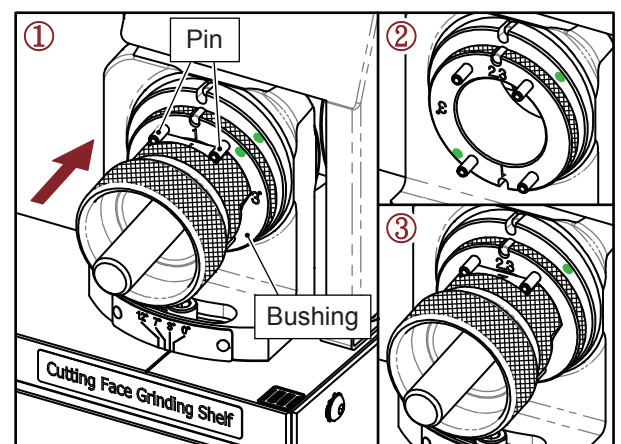

Fig. 10-3
3. 3 Flute Cutting Face Grinding (III) (Fig. 10-3)
- ① Insert the Chuck set into the bushing on Shelf (III), align Slot No.1 with the two pins where marked as No.1, gently push the Chuck set until the grinding noise stops.
- ② Take the Chuck set out and turn the bushing to No.(2·3), align No.(2·3) with the pin on the shelf, then insert it to the end.
- ③ Insert the Chuck set into the bushing, align Slot No.2 with the two pins where marked as No.(2·3), gently push the Chuck set until the grinding noise stops.
- ④ Take the Chuck set out and turn it to grind the Slot No.3 in the same way.